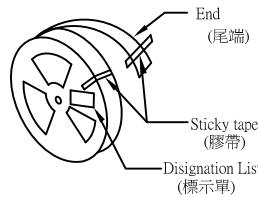

Fig.3
- (4)After winding the material belt, stick the COVER TAPE with 60 mmlength, 15 mm width stick belt, and fix it on the circumference of the REEL,as shown in Fig.3.